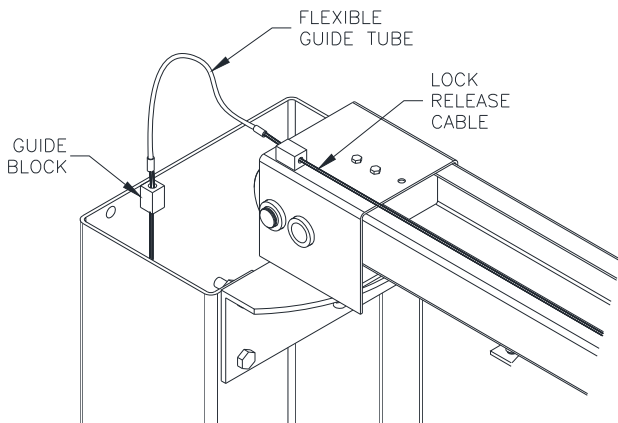

Fig 18b – Lock Release (Idler Side)
- 34) Continue routing the cable up the inside of the Idler Column and through guide block at top of Column Extension. Then route cable through Flexible Guide Tube and guide block on top of Overhead. Insert ends of Flexible Guide Tube into guide blocks. See **Fig 18b**. Reverse this step for the Power side. **IMPORTANT: ENSURE FLEXIBLE GUIDE TUBE DOES NOT CONTACT CYLINDERS WHEN LIFT IS FULLY RAISED.**